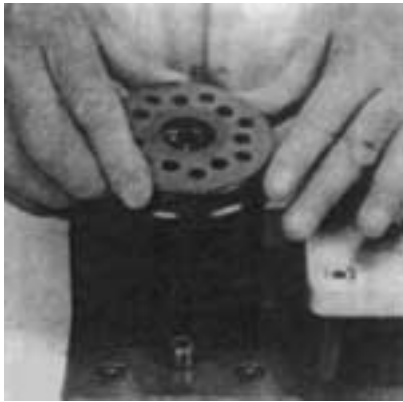

FIGURE 5-51
20. Install the distributor plate. See Figure 5-51. Be sure to properly align the plate holes with the holes in the middle plate.